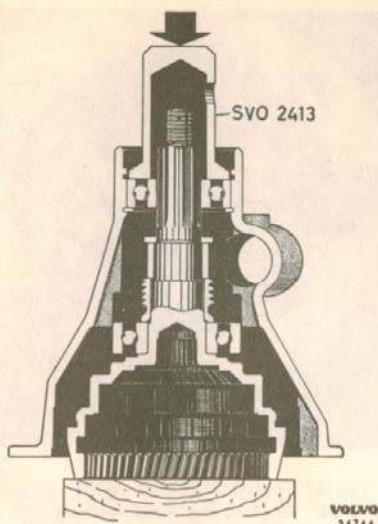

Fig. 3-51. Fitting output shaft
3. Support under the output shaft with a block of wood. Place on the speedometer gear (29), spacing sleeve (28) and thrust washer (27). Press on the rear housing half with drift SVO 2413, see Fig. 3-51. Place in the locking ring for the rear bearing. Press in the sealing ring (25) with drift SVO 2422. Press on the coupling (24) with a suitable sleeve or with press tool SVO 2421. Fit washer and nut. Tighten and lock the nut.